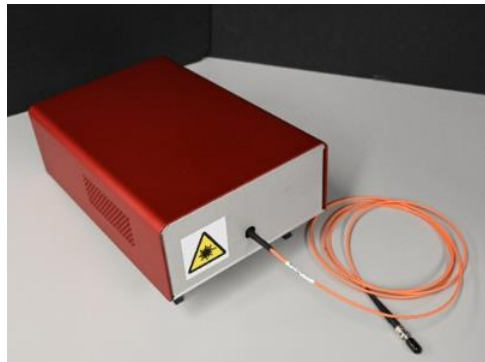

Figure 7 Assembled LED light source in an enclosure box.
14. Once all connections are made and the enclosure is closed, the power supply is ready as shown in Figure 7.